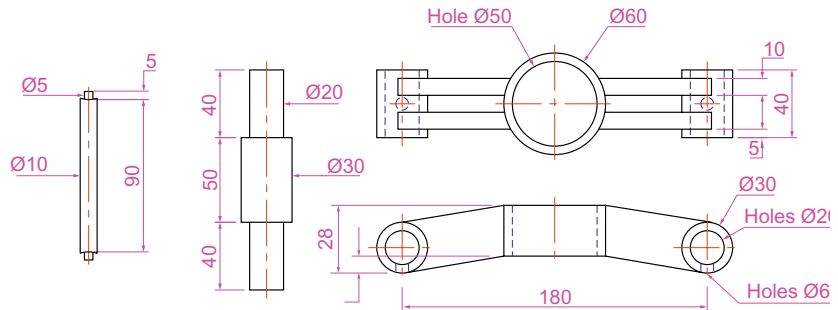

Fig. 19.1 Raster image in a drawing – drawings into which file is to be inserted
This example shows the raster file **Fig05.bmp** of the 3D model constructed to the details given in Fig. 19.1.
1. Construct the 3D model to the shapes and sizes given in Fig. 19.1 working in four layers, each of a different colour.
9. Open the orthographic projection drawing (Fig. 19.1) in AutoCAD.